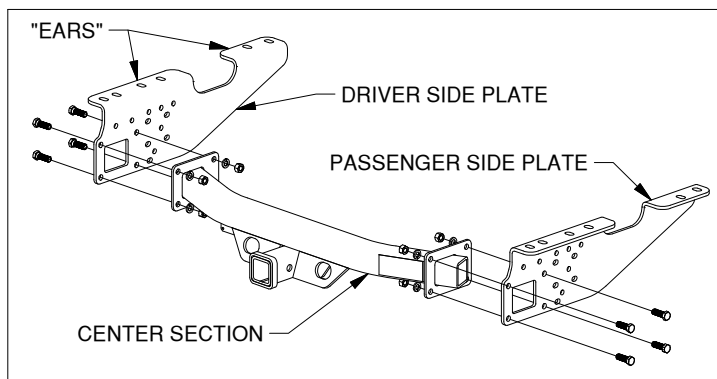

Figure A1: Center Section & Sideplates.
1. Attach the two side plates to the center section using eight 1/2" X 1-1/2" cap screws, lock washers and nuts. Attach the side plates so that the "ears" of the side plates are toward the outside as shown in figure A1. Do not fully tighten the hardware at this time..